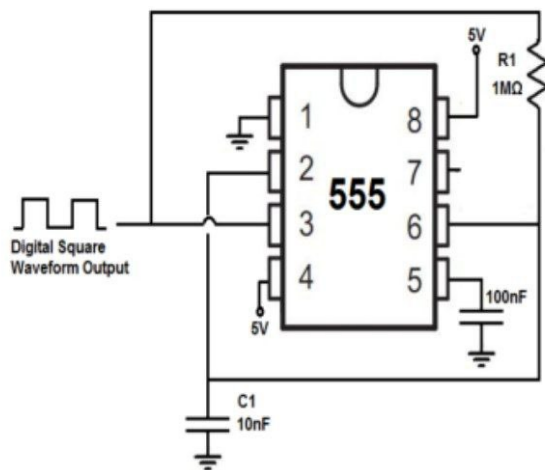

Fig. 1. 555 timer circuit
- 1) We connect the 555 timer circuit to generate a Square Waveform Output according to figure 1